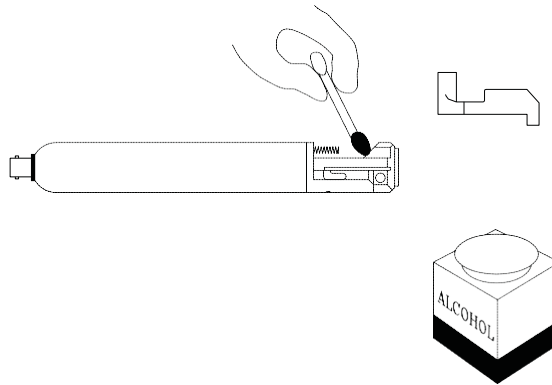

Figure 4-10, Cleaning Individual Sealing Head Components
1. Once the Sealing Head is disassembled (see Disassembly of the Sealing Head on page 4-6 for step by step instructions), use Amphyl® or equivalent to disinfect (follow manufacturer's instructions). Use alcohol applied to a cotton swab to clean the ground jaw and RF jaw, paying particular attention to the small grooves and slots on the plastic portion of the head. See Figure 4-10, Cleaning Individual Sealing Head Components. Be sure to clean all areas that may have been subjected to contamination.